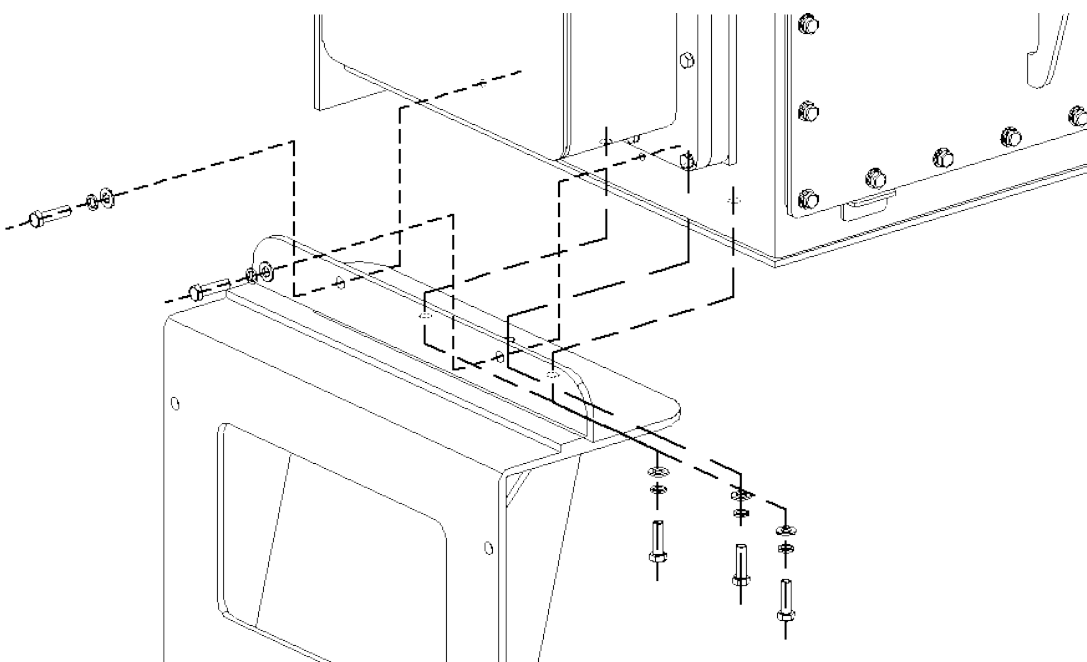

Figure 8-7 MDU Connection Bracket Installation
- Connect the bracket as shown in Figure 8-7.